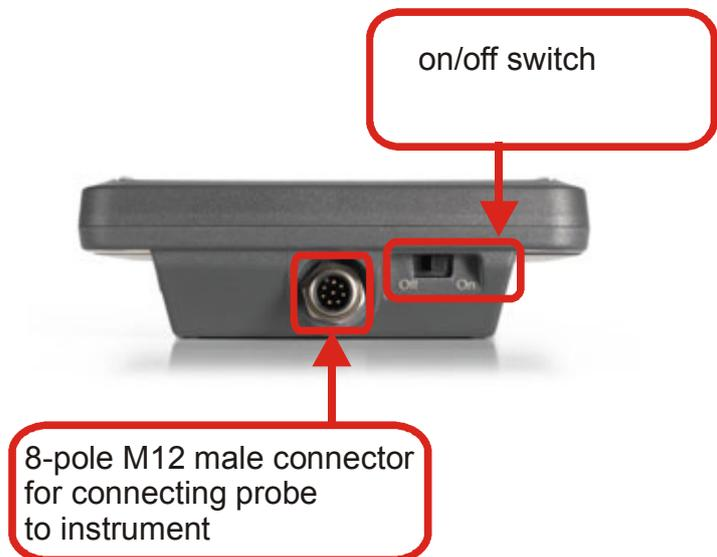

Figure 2.5: On/Off switch. 8-pole M12 male connector for connecting probe to instrument
- 6- Switch the device on with the on/off switch (figure 2.5).